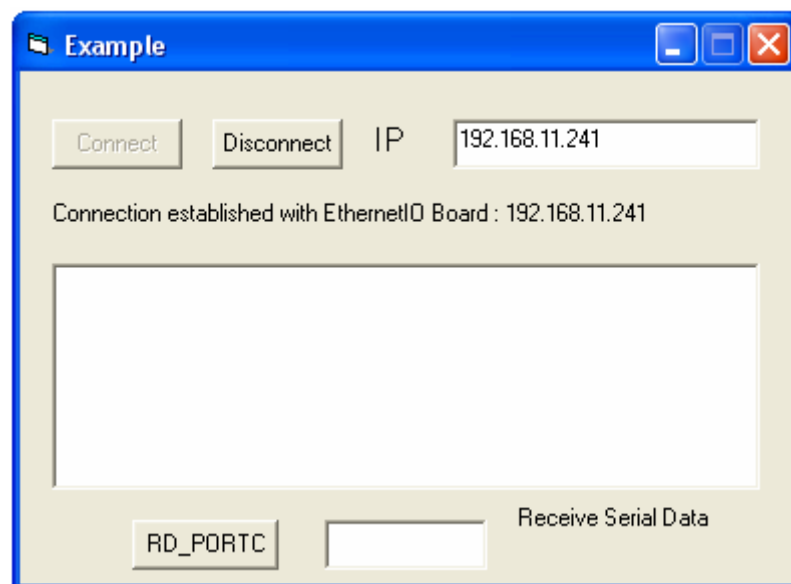

Figure 4-3 Show Connection Established
- 2) Open HyperTerminal program when you type character on HyperTerminal. It will be show character on textbox Receive Serial Data of Example application. Show in figure 4-3